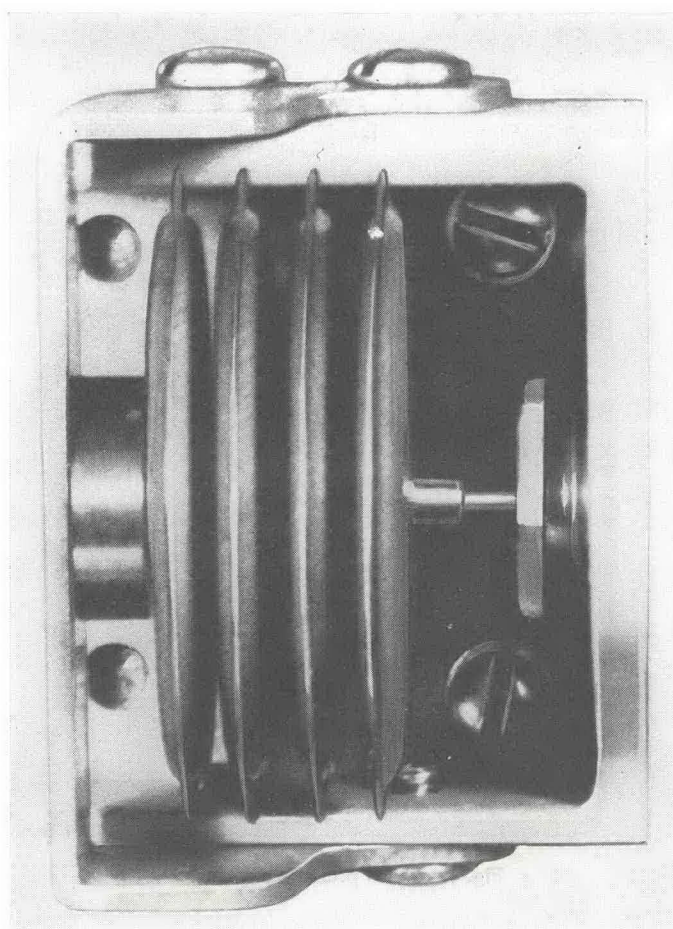

Fig. 3. Diaphragm capsule pressure element.
**Diaphragm Capsule Pressure Element.** This pressure element is made up of two or more circular formed metal diaphragms which are welded together at both their inner and outer edges around their complete periphery. Figure 3 shows a typical assembly. The fabricated unit becomes a flexible sac or container, sealed off at one end and open to a connecting tube at the other end for the process pressure connection. The diameter and number of diaphragms used to make up the complete unit depend on the material of the diaphragm and the pressure range desired. The process pressure is applied to the inside of the capsule through the connecting tube; it expands the capsule with a resulting movement at the closed end. The actuating linkage for the pointer or pen arm is attached to this closed end. Diaphragm capsules are used for pressure ranges from 0-10 in. of water to 0-100 psi. The materials may be phosphor bronze, stainless steel, or alloys of any type.